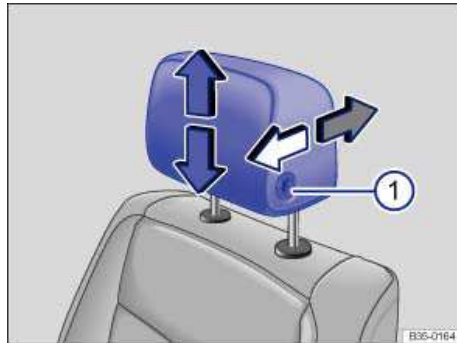
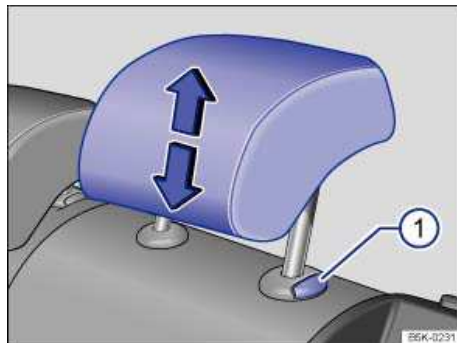

Fig. 43 Adjusting the front head restraints.
Fig. 44 Adjusting the rear head restraints.
- Pull the head restraint up in the direction of the arrow, or push it down while pressing the button ⇒ fig. 43 (1) or ⇒ fig. 44 (1) ⇒ .
- Push the head restraint forward in the direction of the arrow or slide it back with the button pressed ⇒ fig. 43 \(1\).